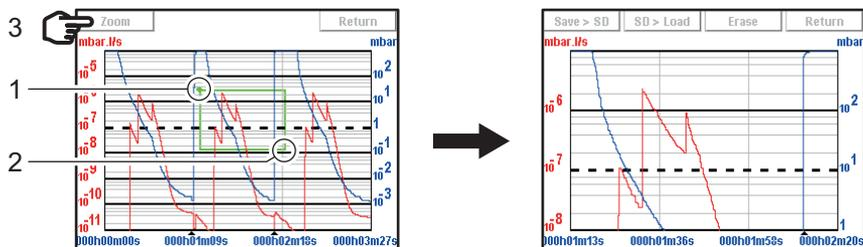

**Fig. 12: Viewing a recording**
- Press [Save > SD] (Fig. 12).